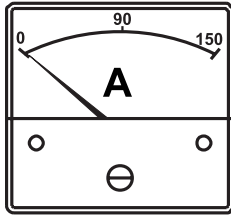

Figure 50. Ammeter (No Load)
8. The ammeter (Figure 50) will indicate **zero amps** with no load applied. When a load is applied, the ammeter will indicate the amount of current that the load is drawing from the generator.